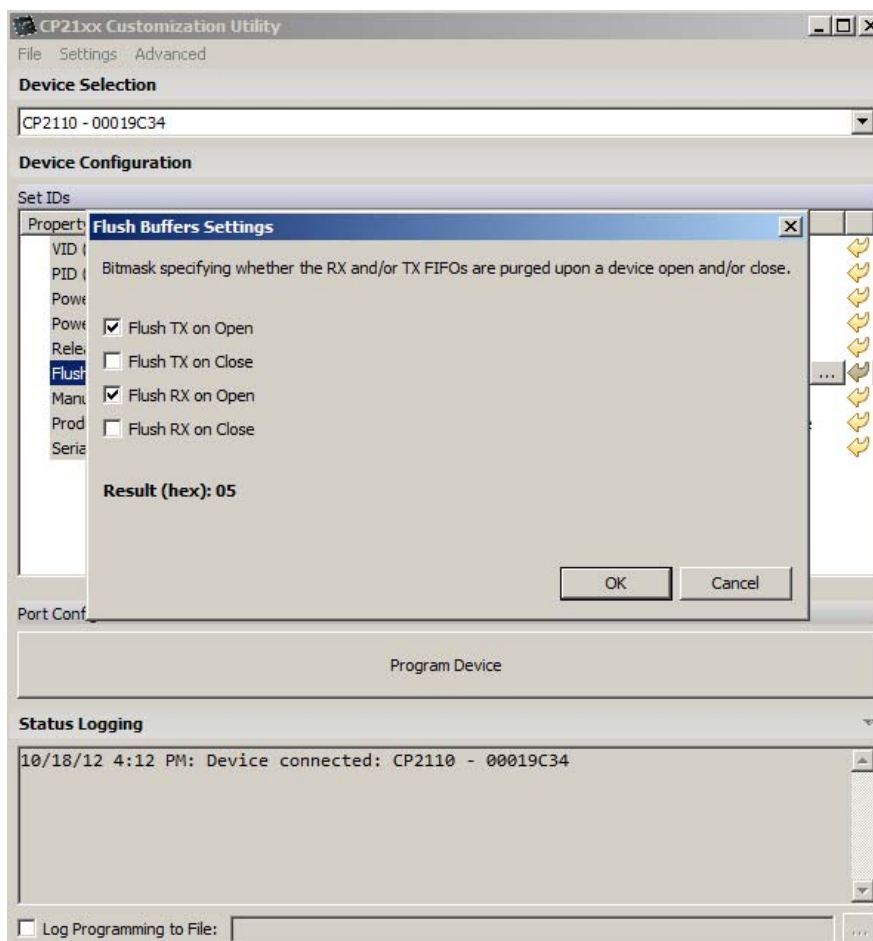

Figure 5. CP2110/CP2114 Flush Buffers Options
6. **Flush Buffers (CP2110/CP2114 only)**—The flush buffers options shown above in Figure 5 allows open and close options on the RX and TX. Check the options required for the application.